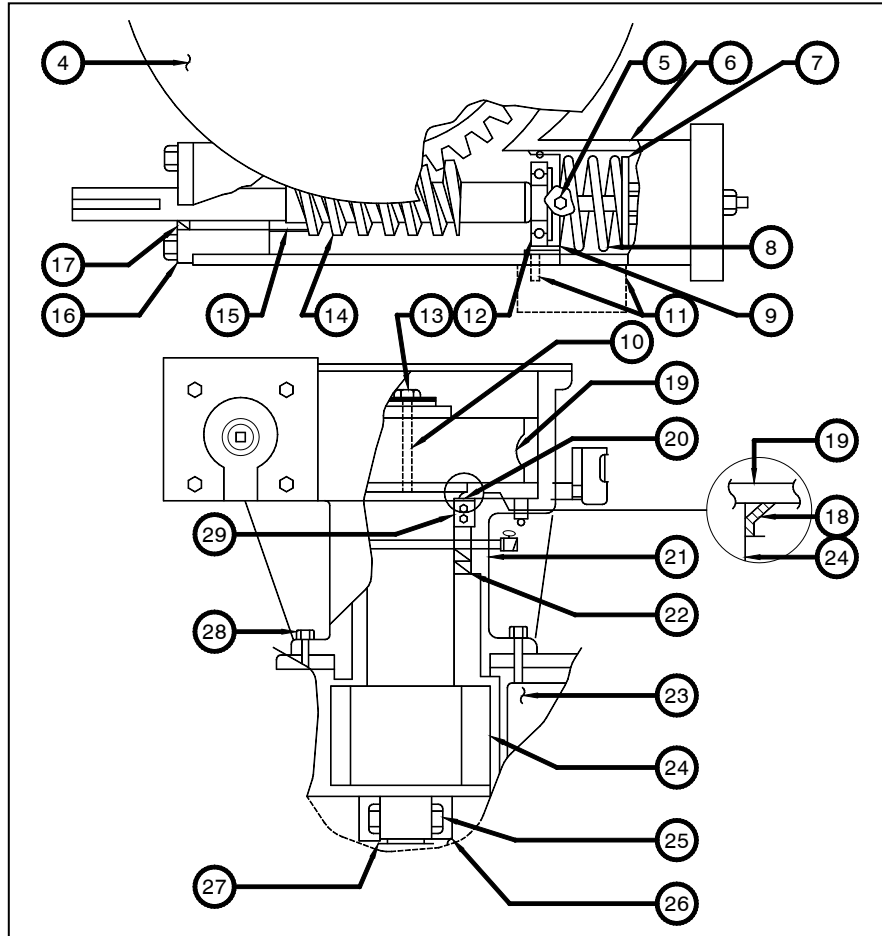

Figure 4.7c
- .3 Remove the capscrews (28), connecting the worm housing (21) to the secondary drive (refer to Figure 4.7c).
- .13 If removed, screw the actuating pin into the drive control assembly, referring to Figure 4.7c. Torque the pin to 20-25 ft. lbs.